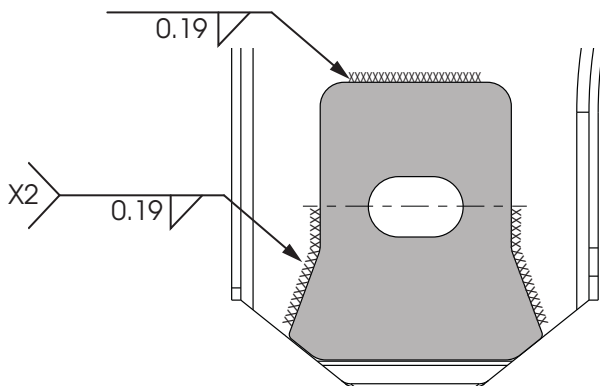

Figure 9: Inboard patch plate welds
3. **Weld** the inboard patch plate using specifications shown in Figure 9.